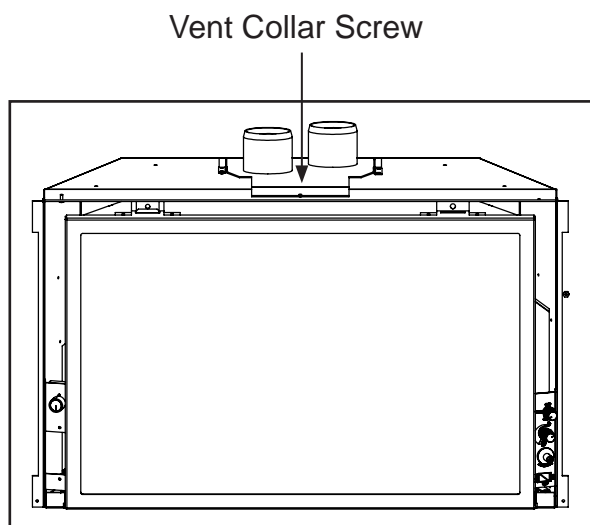

Figure 21: Vent Collar Plate Screw Location.
5. If the fireplace opening is lower than 24" (610 mm), remove the vent collar plate from the top of the insert by unscrewing the single T-20 Torx screw located on the center top of the stove above the door opening (see Figure 21). Slide the collar plate backwards. Properly secure the vent collar plate to the flexible vent pipe liner(s) previously installed in the chimney. Be careful not to over-stretch the liner(s).